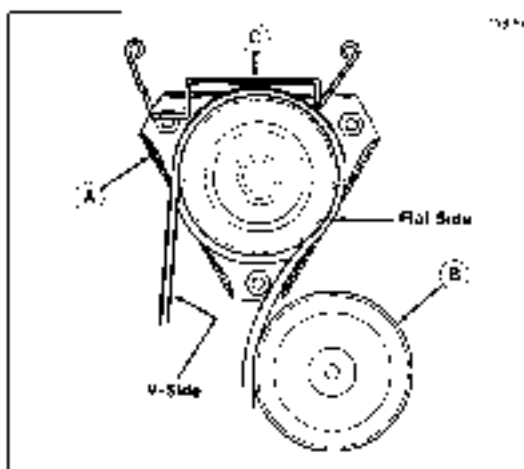

Figure 27. Belt Installation
4. Remove mower belt around bottom pulley (V-Side) and around idler pulley (Flat Side). Hardware securing belt stop may need to be loosened to remove belt. Belt diagram is shown in figure 27.
2. Route belt under both roller over the drive pulley. Insert mower belt around bottom pulley (center of electric clutch). Refer to figure 27.